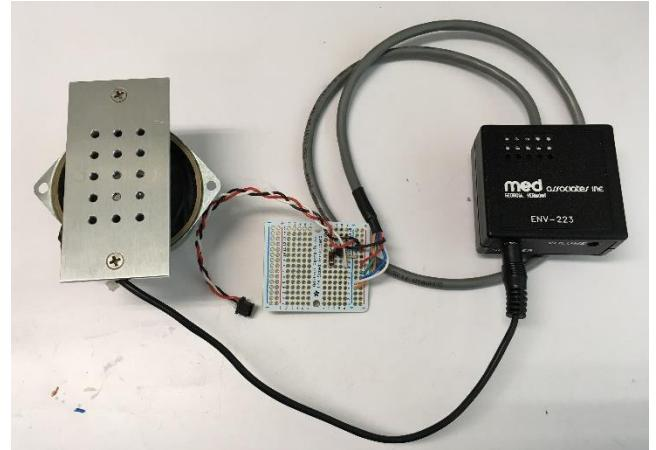

Figure 56 Completed audio cue system
- See Figure 56 for the completed audio cue system.